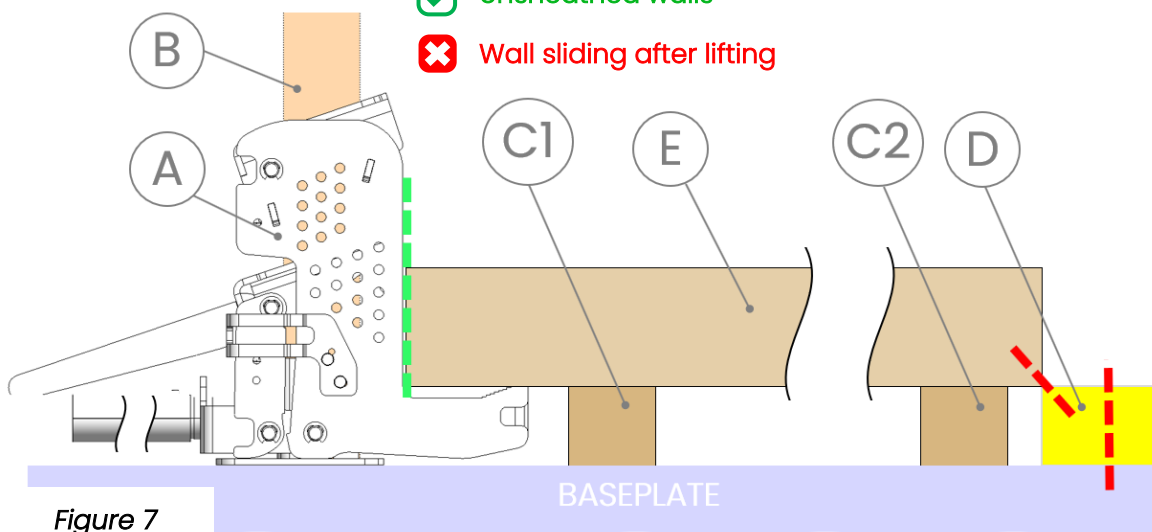

Figure 7
Securing the wall against unwanted sliding is done by joining the lower plate with the bottom plate (D) using wood screws (see Figure 7), or long nails along the bottom edge of wall's lower plate. It's considered already with bottom plate firmly fixed to the baseplate. This connection creates a pivot axis for tilting the wall. Pay attention to this anchoring! This method doesn't allow the wall to be shifted after it's tilting to the vertical!